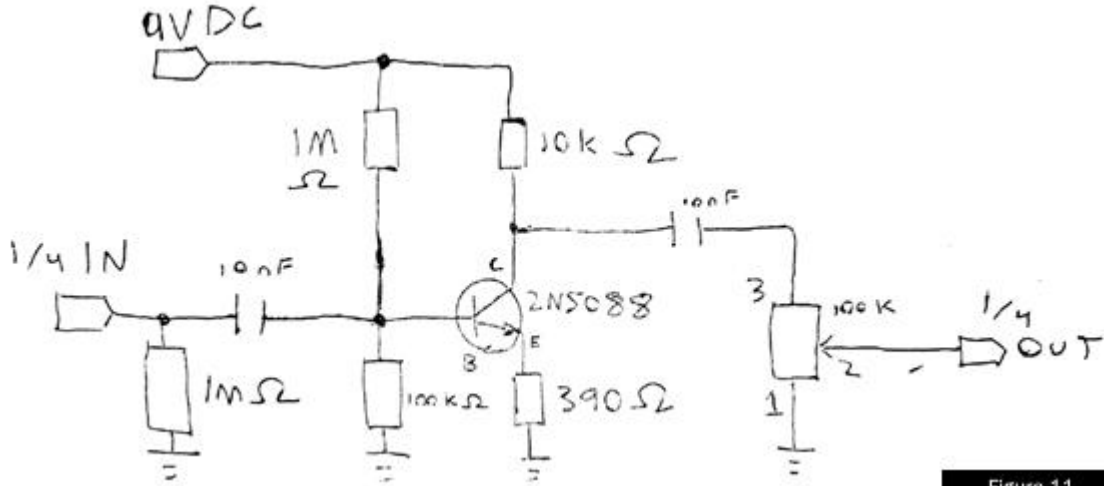

Figure 11
13. Familiarize yourself with the circuit diagram shown in figure 11.